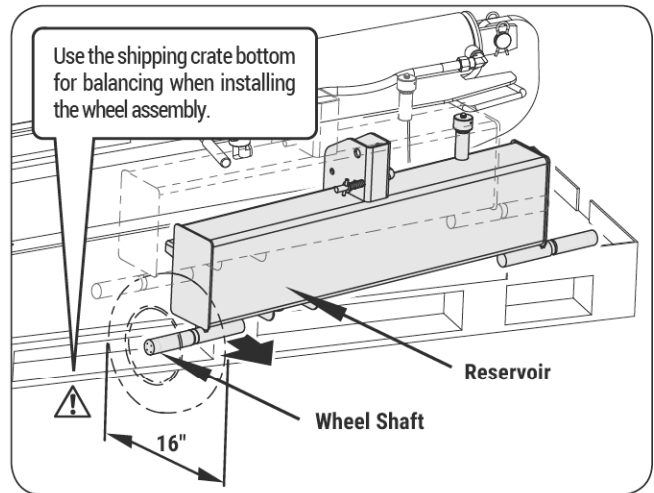

Figure 3b
2. Move the reservoir and let the side wheel shaft outside of the pallet. (See *Figure 3b.*)